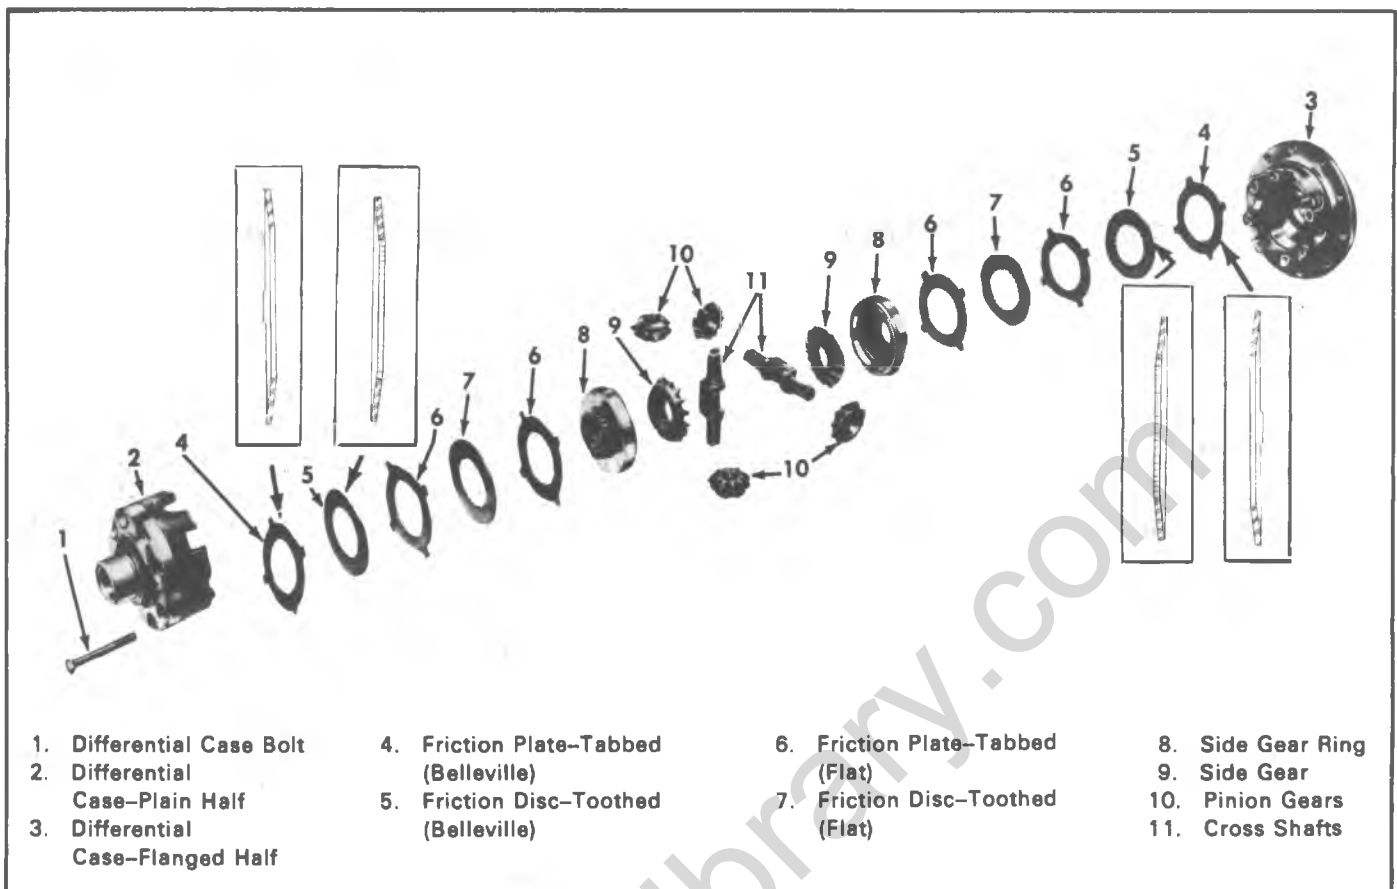

Fig. 22D—Power-Lok Differential
The Power-Lok differential shown in figure 22D is a unit which is installed as optional equipment in place of the standard differential. The locking differential permits the major driving force to be transmitted to the wheel with better traction. This means that the vehicle can be operated on ice, snow, sand or under other adverse conditions with a minimum amount of slippage through one wheel.
A series of clutch plates and dished (Belleville) friction plates on each side of differential side gears transmits drive from differential case to axle shafts. Carefully observe the order in which the plates are used, since they must be replaced in the same order. Refer to figure 22D.
1. Place tabbed Belleville friction plate (4) in flanged differential case, being extremely careful that convex (bulged) side is toward the side gear. See figure 22D.
2. Assemble remaining plates and discs to splines of side gear ring, being sure they are assembled in the same order of removal. The convex (bulged) side of the Belleville friction disc (5) should be toward the side gear and it should nest into the Belleville friction plate (4).
5. In the order listed install the following: (1) side gear, (2) side gear ring, (3) flat plate with tabs, (4) flat disc with teeth, (5) flat plate with tabs, (6) Belleville disc with convex (bulged) side up, or toward side gear, (7) Belleville plate, with convex (bulged) side up, or side toward gear.